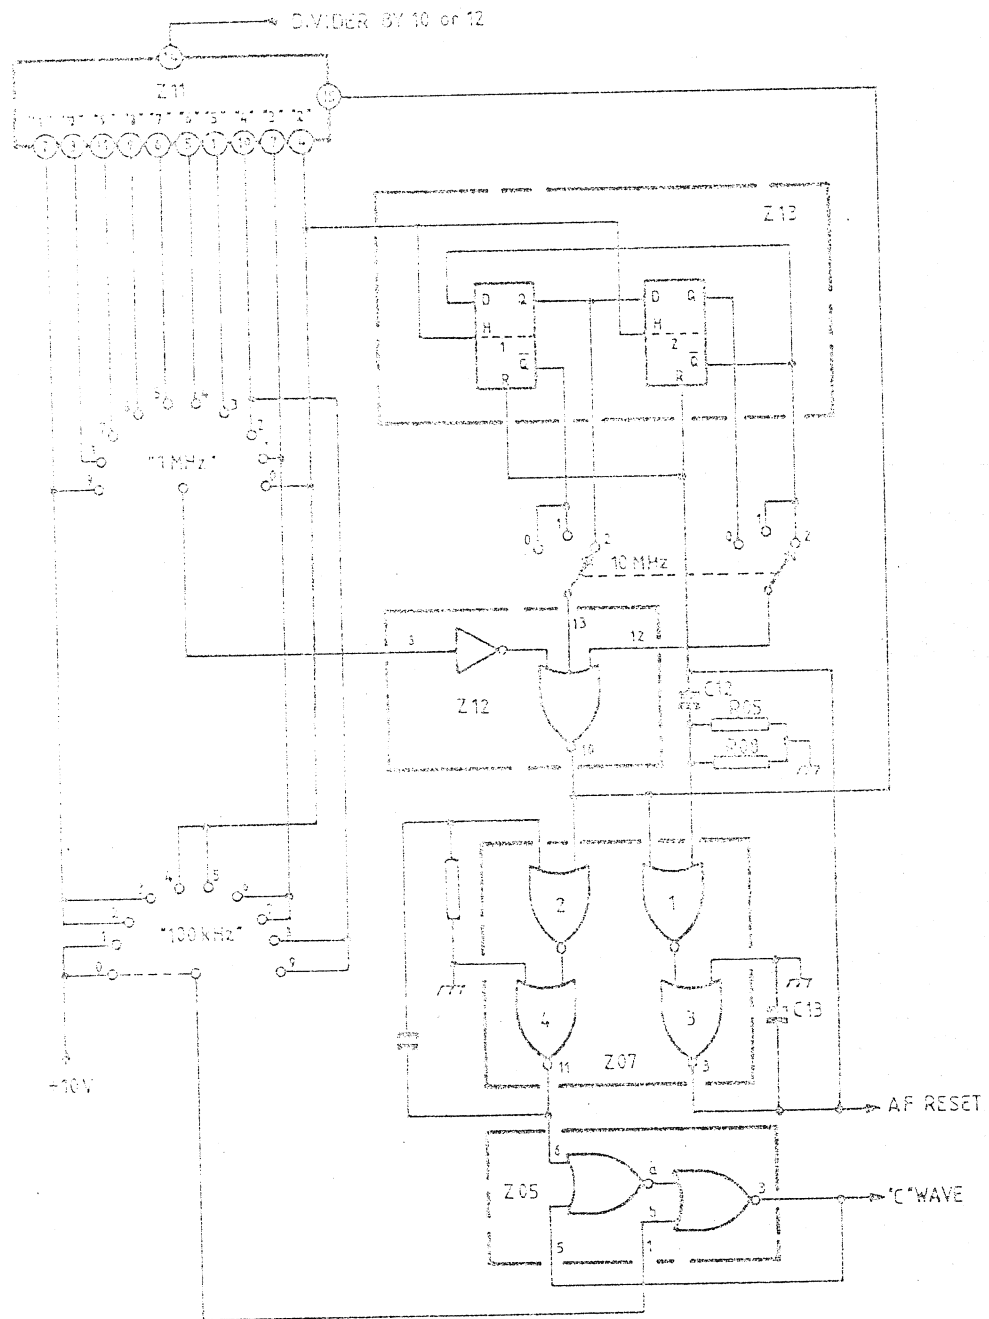

Fig. 5 Functional Block Diagram of Variable Preset Divider
- 63 A functional block diagram of the Variable Preset Divider is shown in Figure 5.